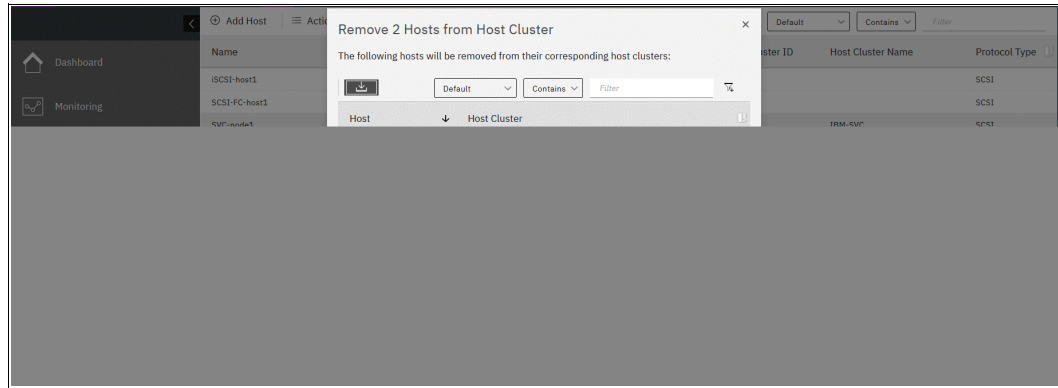

Figure 7-37 Removing a host from a host cluster
2. A dialog window opens, as shown in Figure 7-37.